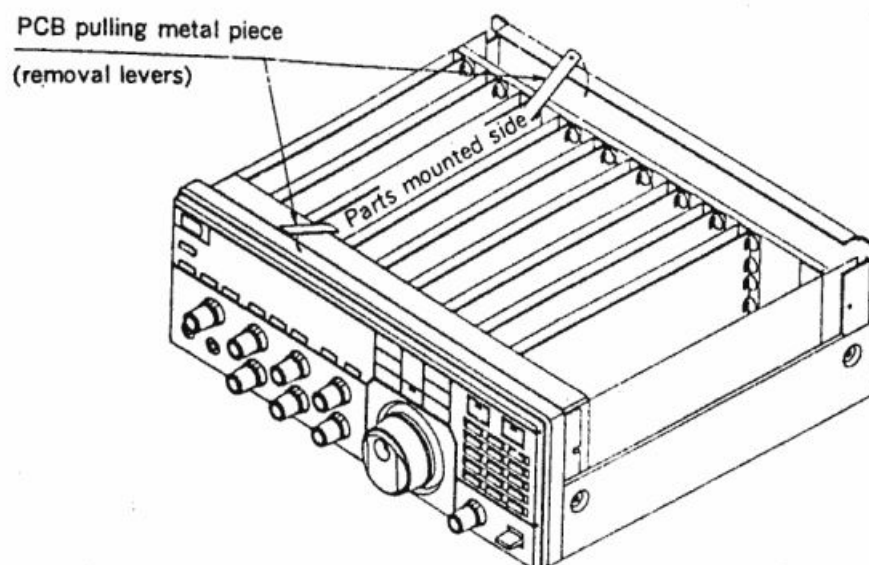

Fig. 9-2 Removing Unit
3. Remove the CPU unit CDC-353 as shown in Fig. 9-2.